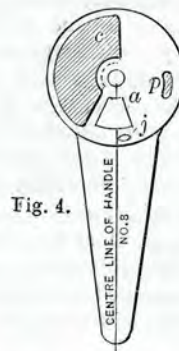

Fig. 4.
17. By preparing a diagram similar to Figure 4, representing the rotary valve *13* and handle *8*, of tracing cloth or other transparent material, cutting the ports *a* and *j* out